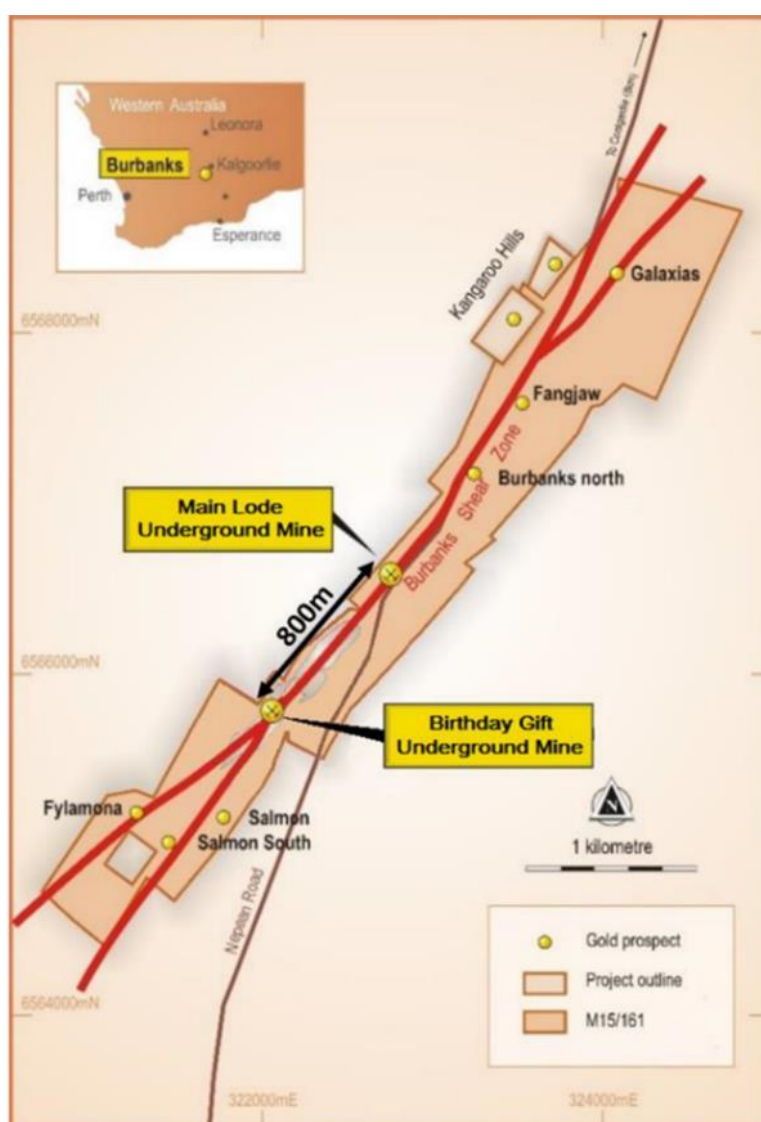

Figure 1 – Burbanks Location Plan
In line with its gold strategy, Barra Resources Limited (Barra, the Company) has completed its latest phase of Reverse Circulation (RC) drilling at Burbanks Project, 9km south of Coolgardie, Western Australia (Figure 1).
Secondly, to extend the strike of the Main Lode system by targeting the gap between Main Lode and the Burbanks North deposit and, if successful and continuity can be demonstrated, a continuous 3.5km of mineralised strike length along the Burbanks Shear Zone (Figure 1).